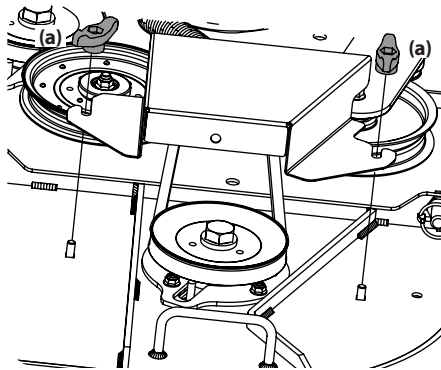

Figure 4-14
3. Remove the wing knobs (a) securing the belt covers (b) to the deck. See Figure 4-14.
5. Remove the belt from around the pulleys. On 36" decks, a belt keeper rod (a) will also need removed. Remove the two bolts securing the belt keeper rod (a) to the deck. See Figure 4-14.